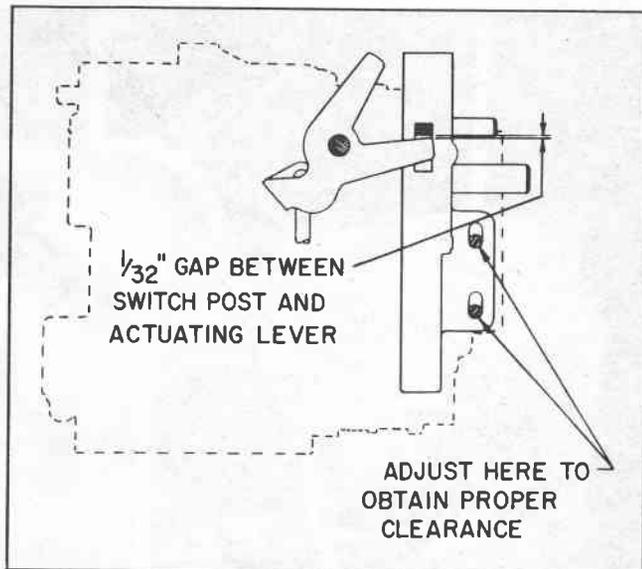

Fig. 6 Vacuum Switch Adjustment
4. Position switch on bracket to obtain a  $1/32''$  clearance between bottom of lip and top surface of lower finger of pump lever (Fig. 6).